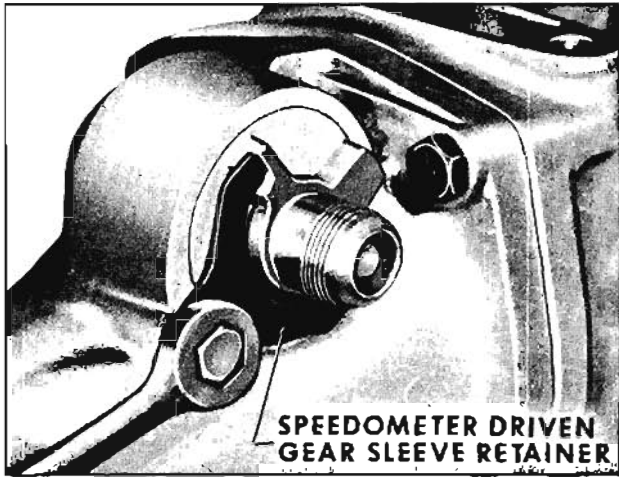

Fig. 6-277 Removing Speedometer Driven Gear Retainer
1. With transmission in horizontal position, remove speedometer driven gear sleeve retainer. (Fig. 6-277)